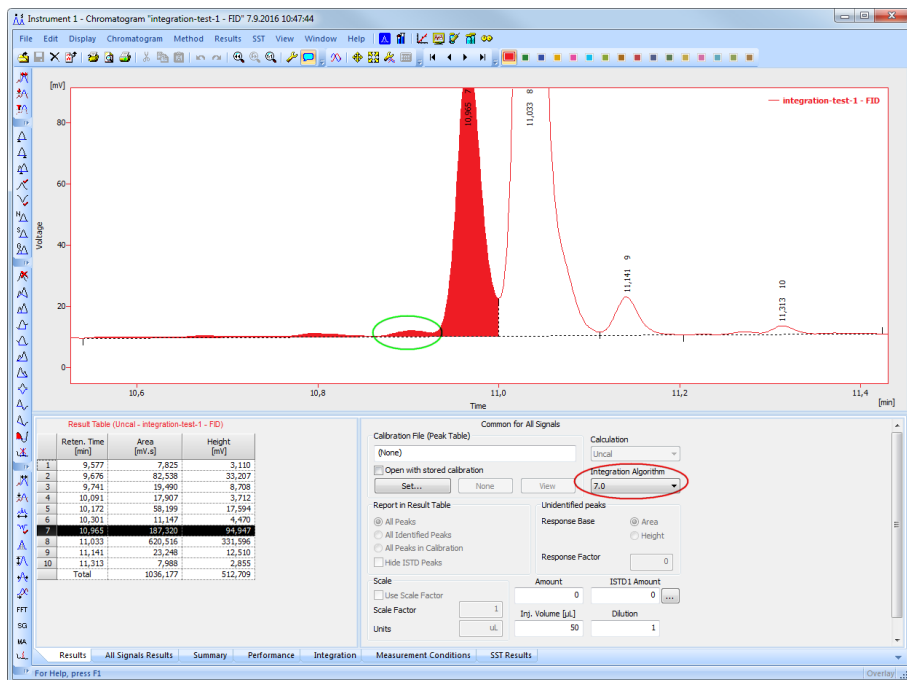

Fig 6: Integration Algorithm 7.0
- **Fig 6** on pg 6. has Integration Algorithm set to **7.0** which is default.